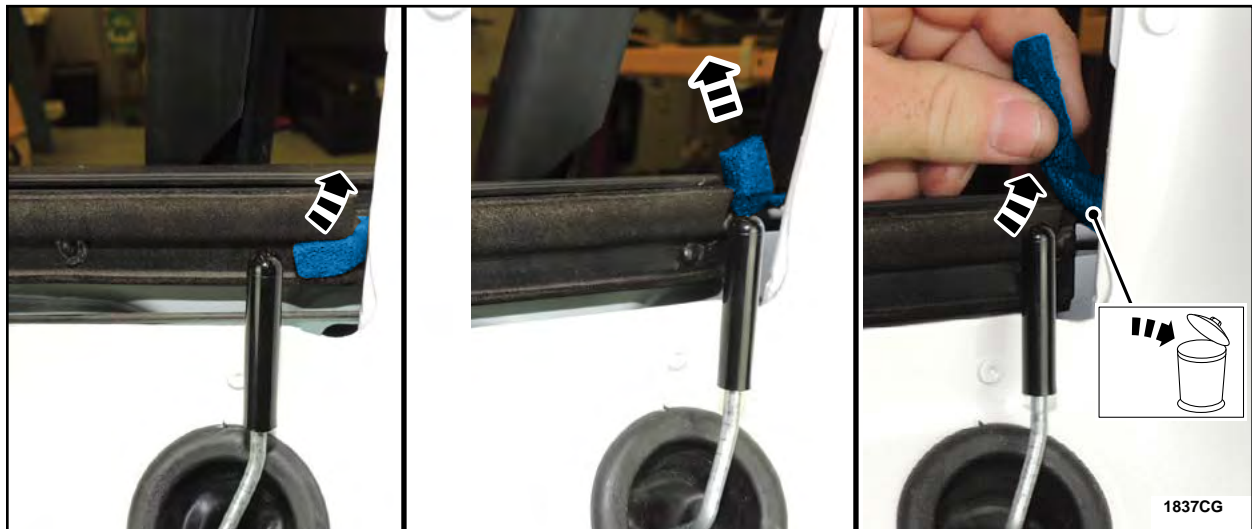

FIGURE 17
5. If present, remove and discard existing foam on the driver and passenger side outer belt moulding (also known as upper belt moulding) at this location. See Figure 17.